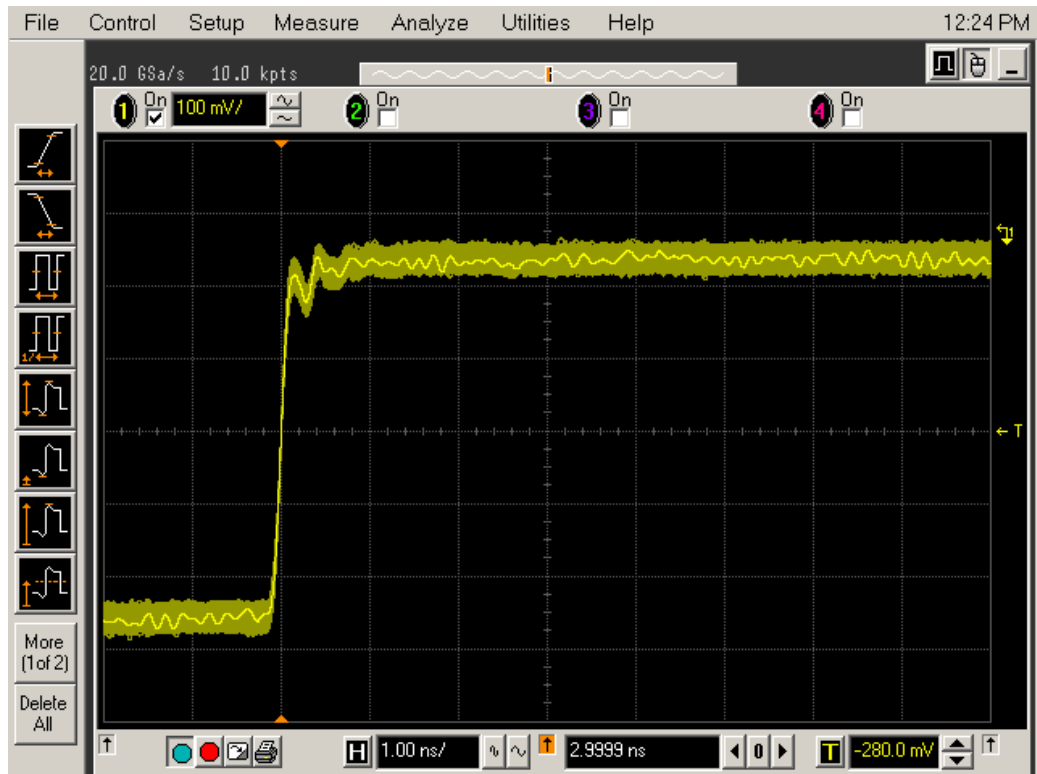

Figure 62 Good Connection Waveform Example
- 4 Set the horizontal position to approximately 3 ns. You should see a waveform similar to that in Figure 62 below.